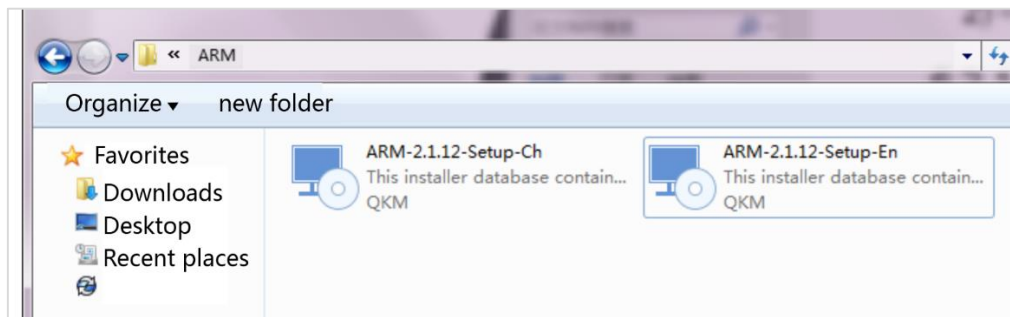

Figure 6-1 Installation package
**Step 1** Download an ARM installation package at the official website of QKM, as shown in Figure 6-1.